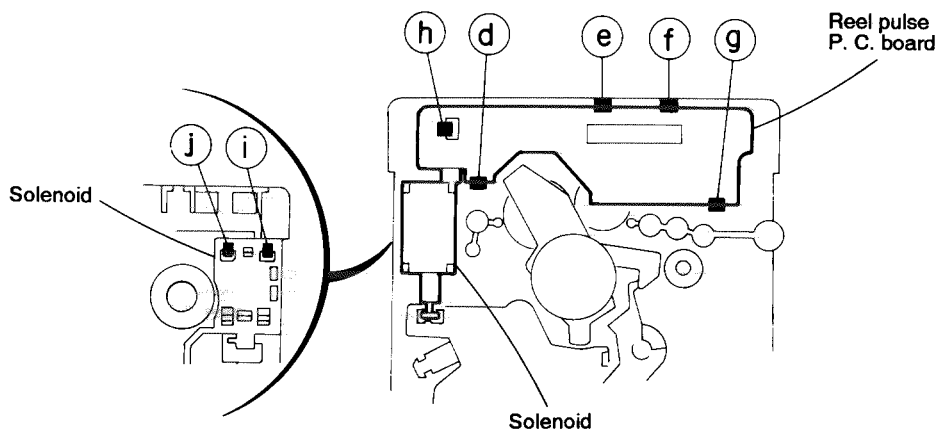

Fig. 5-27
■ **Removing the Reel Pulse P.C. Board and Solenoid** (See Fig. 5-27)